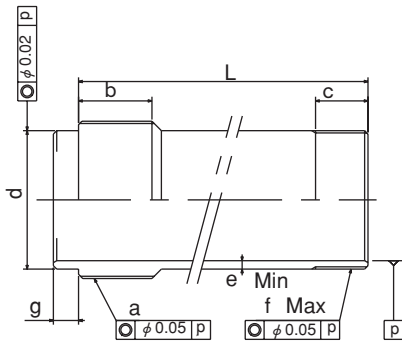

Fig. 11
The dimension L in Fig. 11 is determined from the distance A between the cylinder adapter and the back plate.
- Keep the dimension e and the dimension f in Fig. 11 for the draw pipe and a material with the tensile strength 380MPa (38kgf/mm²) or more must be used.